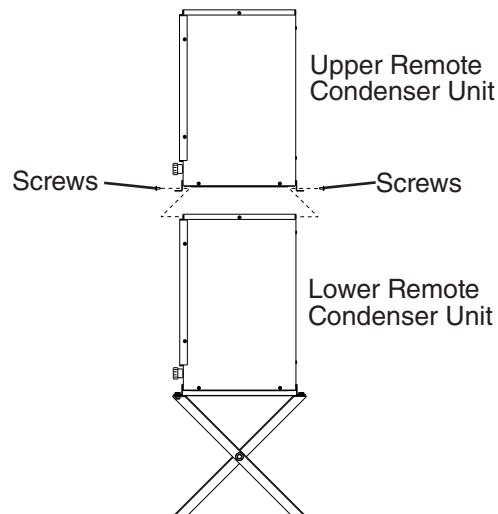

Fig. 15
- 2) Place the upper remote condenser unit on top of the lower remote condenser unit. See Fig. 15.